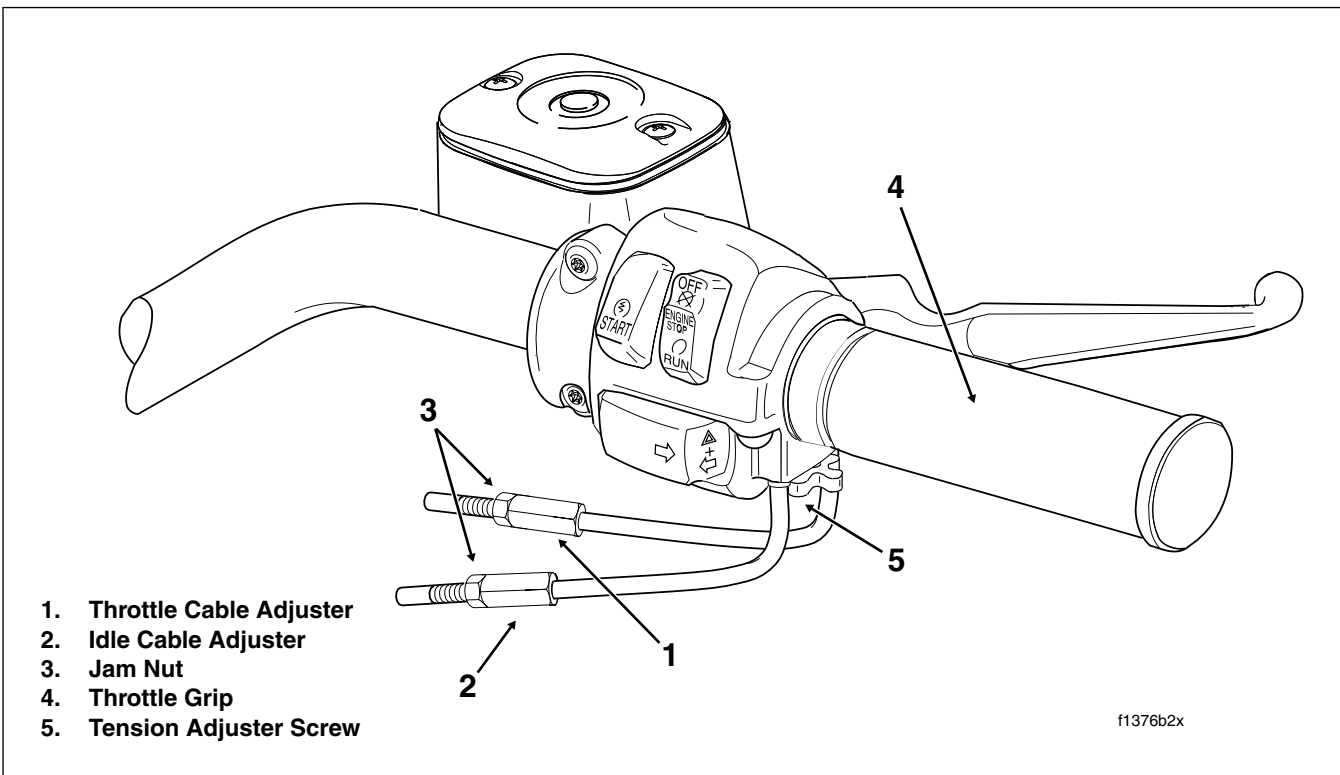

Figure 2-106. Throttle Cable Assembly - Throttle Side (FLHR)
1. Slide rubber boot off throttle cable adjuster mechanism. See Figure 2-106. Holding cable adjuster with a 3/8 inch wrench, loosen jam nut turning in a clockwise direction. Back jam nut away from cable adjuster until it stops. Turn cable adjuster clockwise until it contacts jam nut. Repeat procedure on idle cable adjuster.